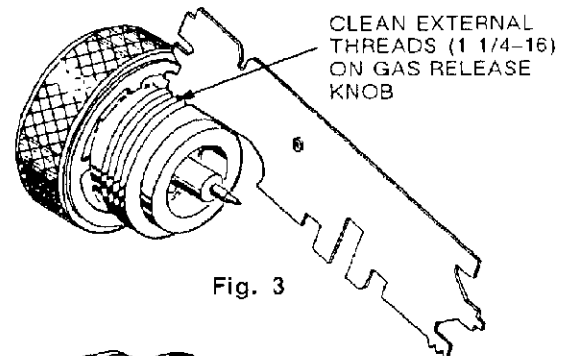

Fig. 3
3. Clean exterior threads (1 1/4-16) on gas release knob as shown in Figure 3. Using correct section of cleaning tool, align grooves in the tool with threads in the knob. Rotate until threads are clean.